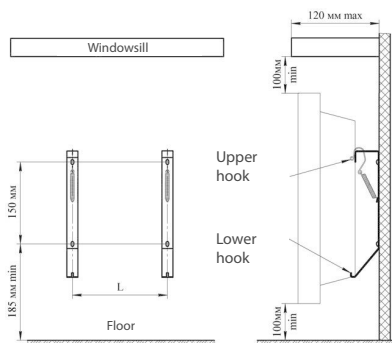

Fig. 1
5.4 For stationary installation of the convector, mark the mounting holes on the wall, referring to Figure 1 and Table 2. Fix the brackets for installing the convector in any way possible, ensuring their reliable fastening during the entire life of the convector.
Align the rectangular holes on the back of the convector with the upper hooks (Fig. 1) of the brackets and put the convector on the hooks.